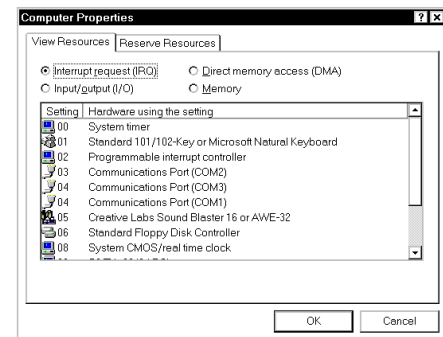

Figure 7, View Devices by Connection
4. With Computer highlighted, select View Devices by Connection, (Figure 7).